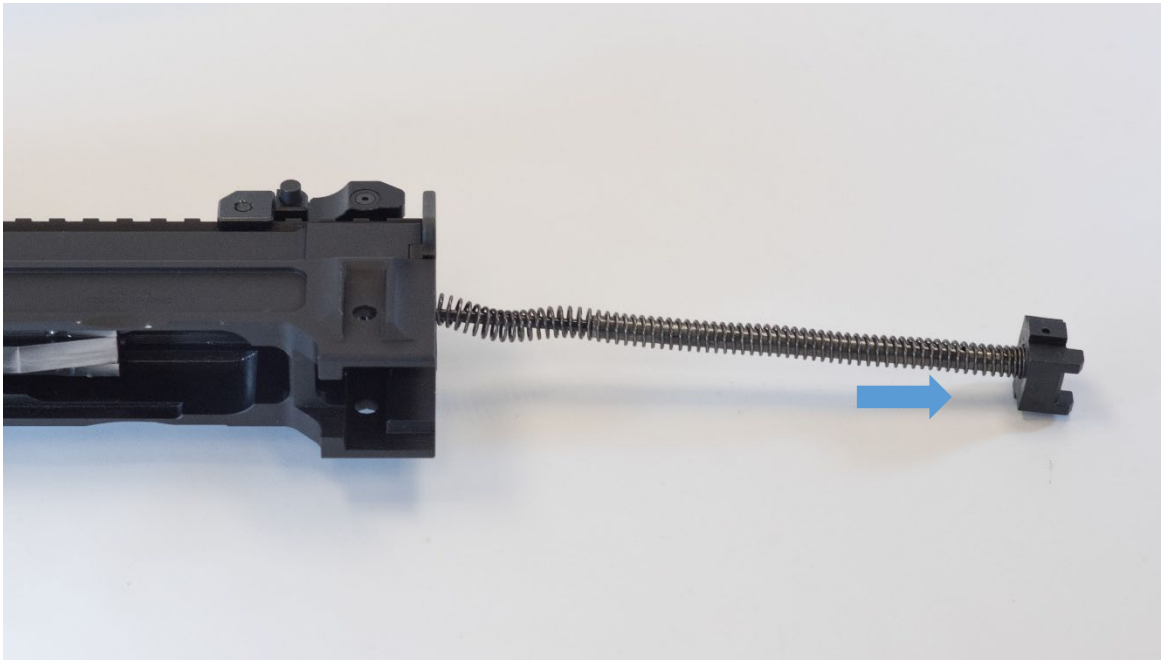

Figure 7: Recoil Spring Removal
- Remove the recoil spring assembly (Figure 7).